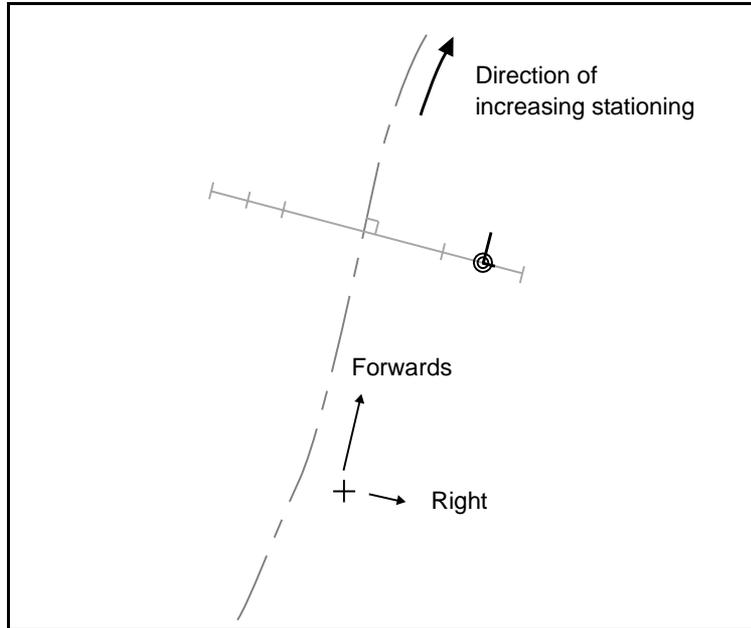

Figure 18.9 Forwards direction and right direction
Note – *The forward/backward and right/left values are relative to the cross-section of the point being staked out (see Figure 18.9). They are not relative to the current direction of travel or to the current stationing and they **do not** represent delta stationing and offset values for points on curved sections of the road.*
Figure 18.9 shows an example of the forwards direction and the right direction when staking out a point.
*Note – Values in the Δ Backward (or Δ Forward) and Δ Left (or Δ Right) fields are relative to the cross-section of the point that is being staked out. They are not relative to the current stationing and **do not** represent delta stationing and offset values for points on curved sections of the road. For more information, see Figure 18.9 on page 436.*